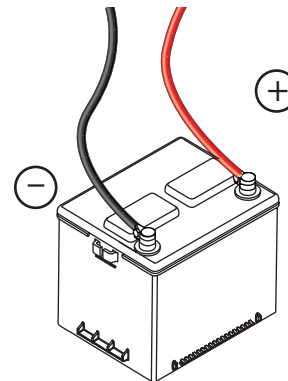

Figure 4-10. Battery Cables
- See Figure 4-10. Inspect the battery posts and cables for tightness and corrosion. Tighten and clean as necessary.